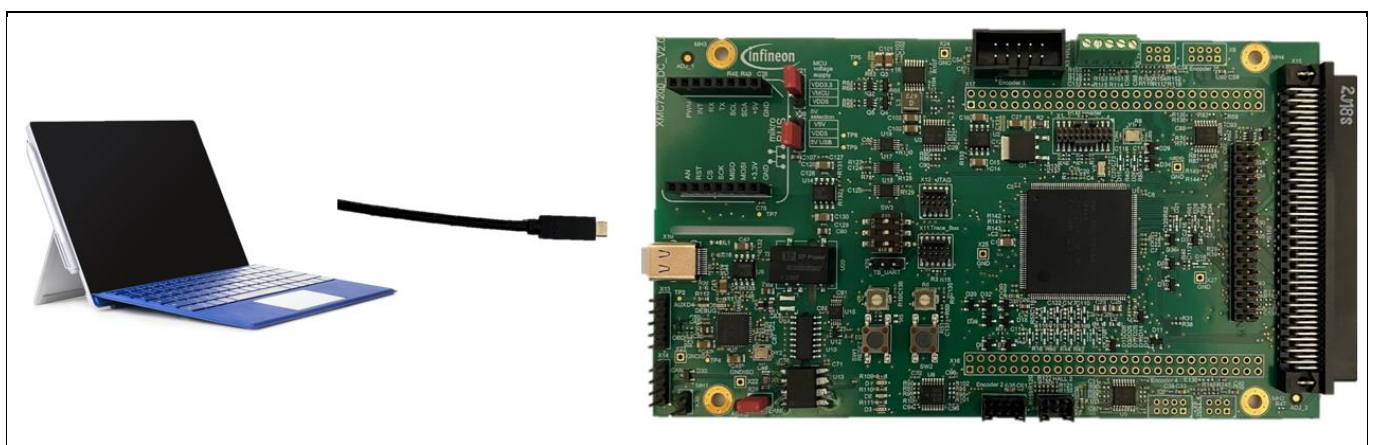

Figure 8 Connect USB cable to the USB connector on the board
1. To program or debug the XMC7200 drive kit, connect it to the PC using a USB Type-C cable. Attach the cable to the J-Link USB connector as shown in Figure 8. Upon first connection, the PC recognizes the device as a USB composite device.